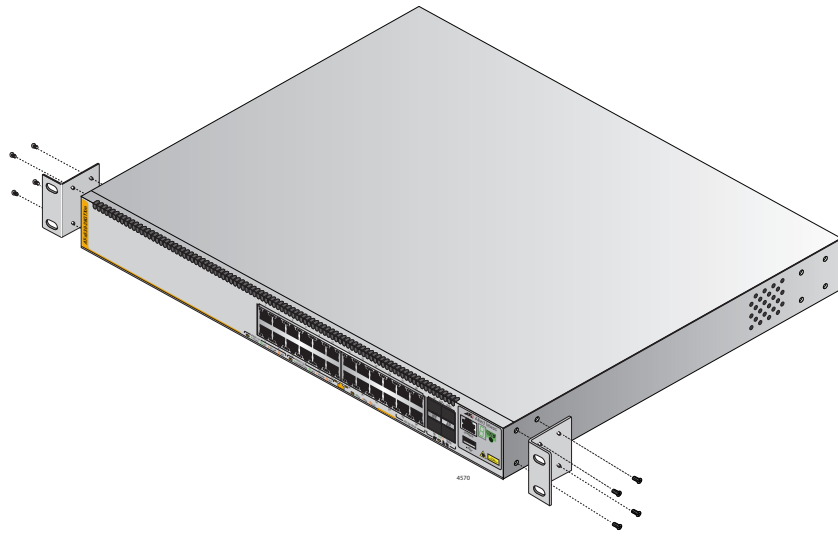

Figure 29. Example of Attaching the Brackets to the Switch
2. Attach the two brackets to the sides of the switch in the selected position, using the eight M4x6mm screws supplied with the unit. The illustration in Figure 29 shows the installation of the brackets such that the front panel of the switch is even with the front of the equipment rack.